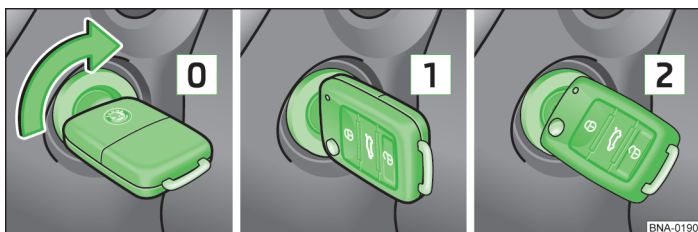

Fig. 44 Positions of the vehicle key in the ignition lock
Vehicle key » fig. 44
3.	In addition, for the diesel engine: To heat the glow plugs, turn the vehicle key in the ignition lock to position 1 » fig. 44 » page 67. The indicator light  illuminates in the instrument cluster.
4.	Turn the vehicle key in the ignition lock to position 2 » fig. 44 » page 67 - do not depress the accelerator pedal.
5.	Turn the vehicle key in the ignition lock to position 0 » fig. 44 » page 67.